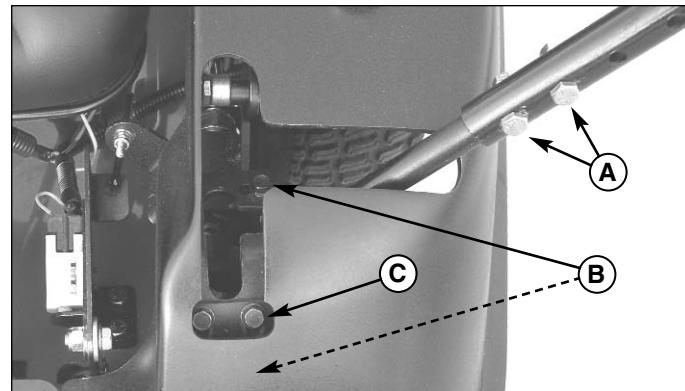

Figure 21. Motion Control Lever Adjustments
**To Adjust the Lever Placement:** Loosen the two bolts (B, Figure 21) securing the control track, and adjust the control track in or out to properly adjust the lever end spacing.
**To Adjust the Handle Height:** Remove the motion control lever mounting hardware (A, Figure 21) and reposition the lever either up or down from its original position. You may need to readjust the handle placement as described above.
1. Loosen the two bolts securing the forward adjust plate (C, Figure 21).